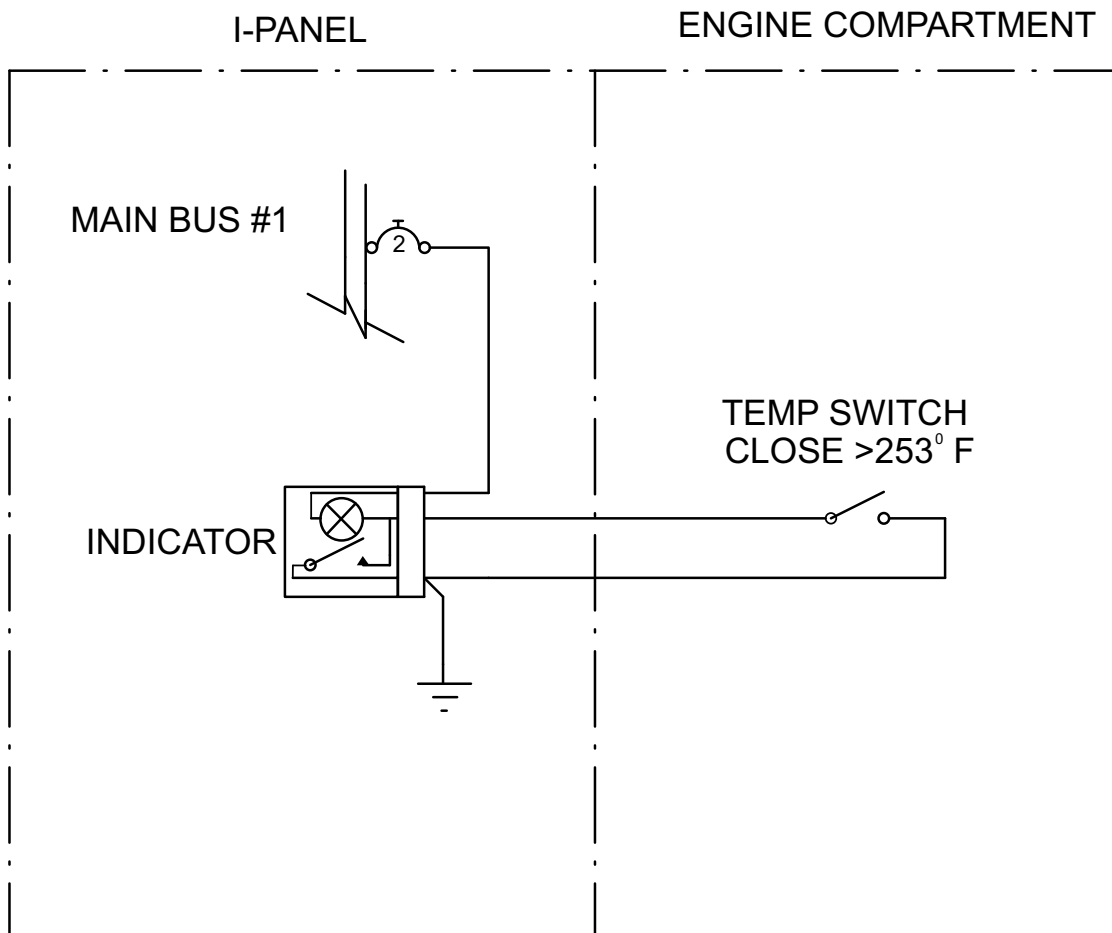

Figure 5 - Schematic
10.3.8 Route the wiring along the existing bundles as shown in Figures 3-5. Terminate using applicable ring terminals, fastons and soldering techniques. M22759-34-20-9 or equivalent shall be used. Terminate the wire in accordance with Figure 5.